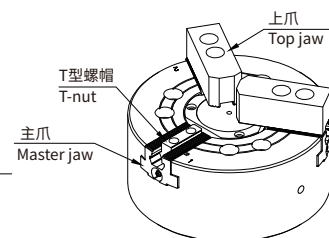

Fig.16
- 工作物必須夾持於行程的中點位置，或在中點以內，這樣將可達成最好的精度及穩定度，儘量防止用行程的盡端來夾持工作物。(Fig.16)
- It is the most desirable that the workpiece is gripped at mid stroke of the master jaws. To grip the workpiece correctly, avoid gripping at stroke end. (Fig.16)